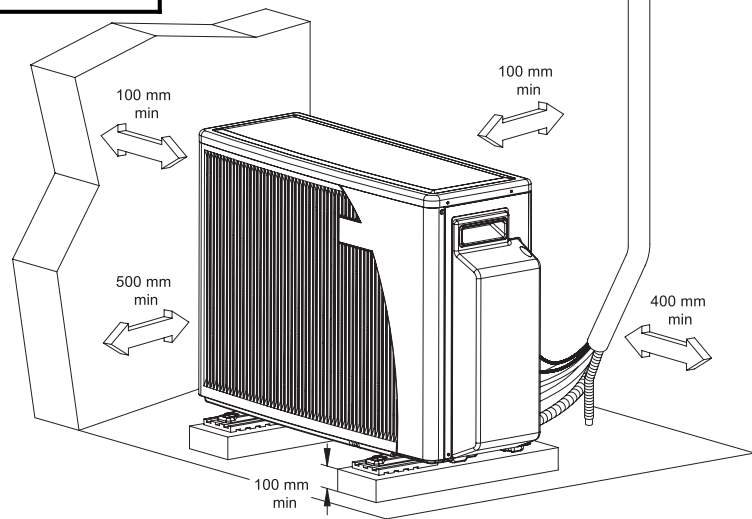

Fig.4
1. The location must allow easy servicing and provide good air circulation as shown in fig 4.
6. Refer to figure 4 for allowed installation distances.